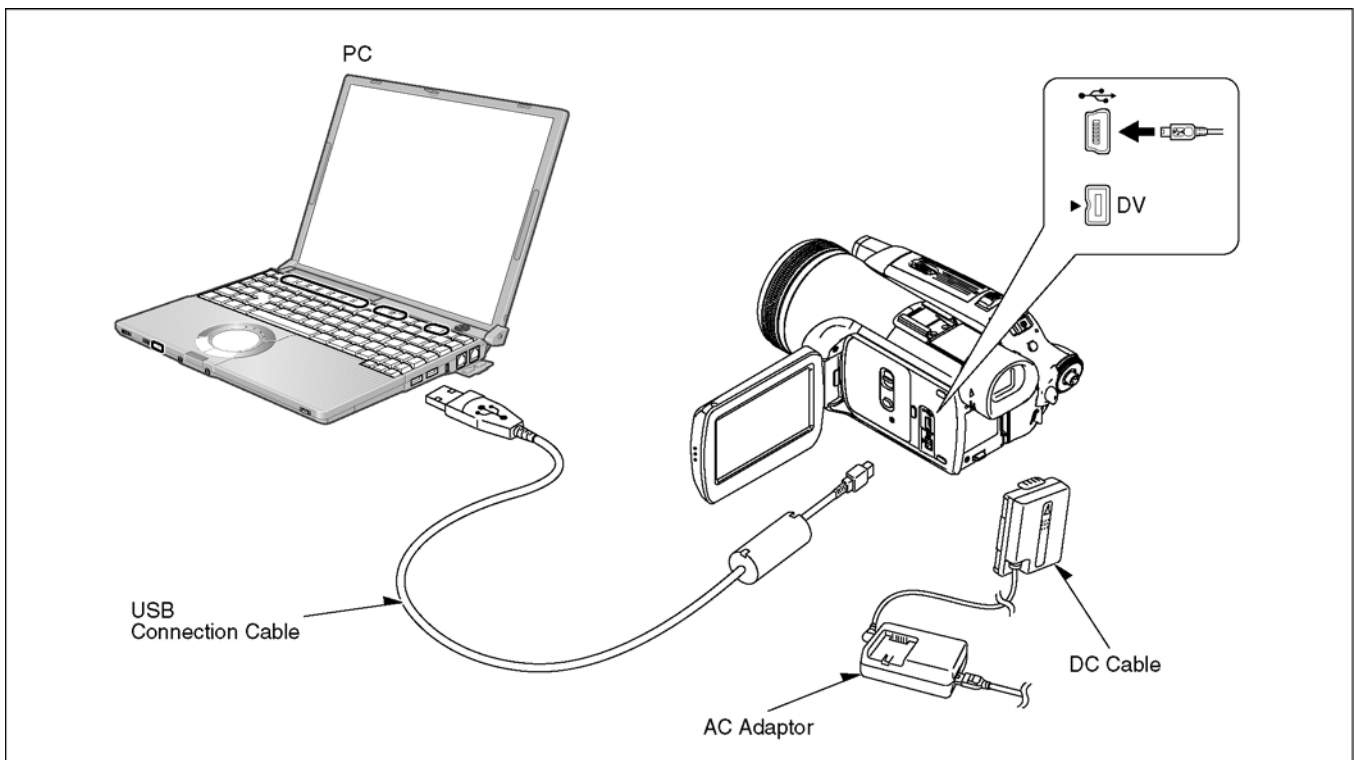

Fig. E1
b. Connect the PC and DV Camcorder as shown in Fig. E1 and E2.